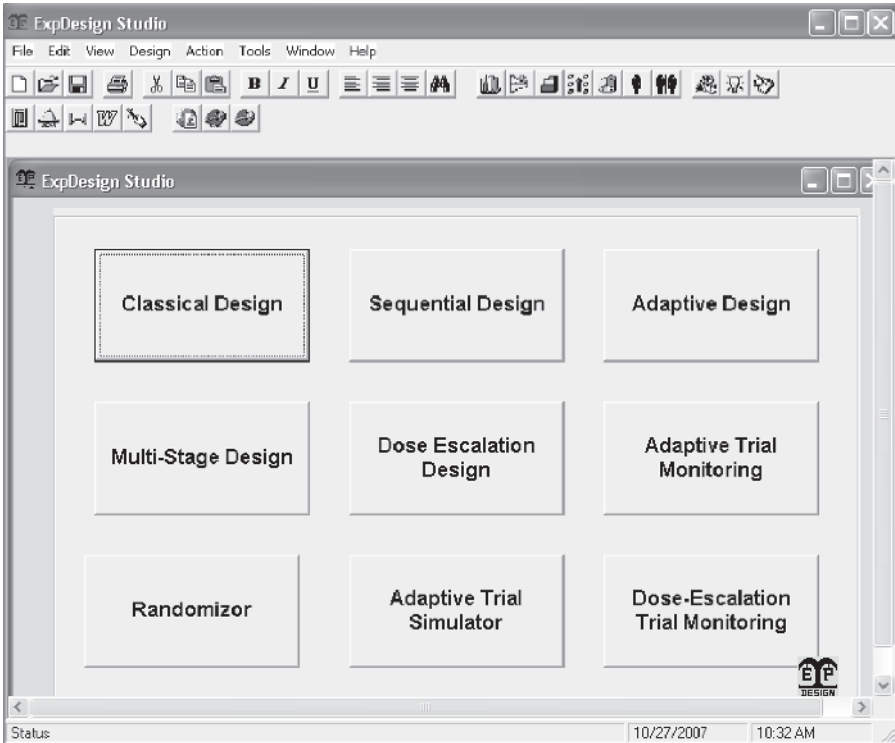

Figure 1.2 ExpDesign Studio startup window.
design, sequential trial design, multistage trial design, dose-escalation trial design, and adaptive design (see Figure 1.2). Alternatively, the user can click one of the nine buttons in the ExpDesign start window to start the corresponding design. The next set of three icons is for launching a design example, computing design parameters, and generating a design report. Following these are five color icons for the toolkits, including a graphic calculator, a distribution calculator, a confidence interval calculator, a word splitter, and TipDay. The mouse can be moved over any icon on the toolbar to see the Tiptext, which describes what the icon is for. We are now ready to design a trial.
2. On the ExpDesign **Start** window (Figure 1.2), select one of the following tasks you want to do: classical, sequential, adaptive, multistage, dose-escalation design, adaptive trial monitoring, random number generation, adaptive trial simulation, or dose-escalation trial monitoring.